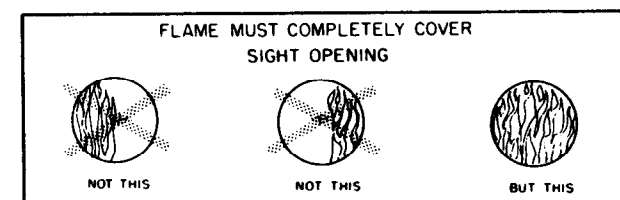

Figure 8
4. Both pilot and main flames must completely cover scanner field of view (Fig. 8).